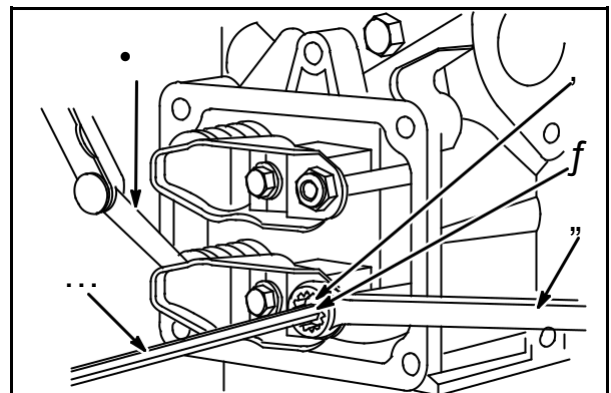

Fig. 49
If the valve clearance requires adjustment, loosen the lock nut (2) with a wrench (4). Use a hex wrench (5) to turn the adjusting screw (3) to adjust the valves, **Fig. 49**.